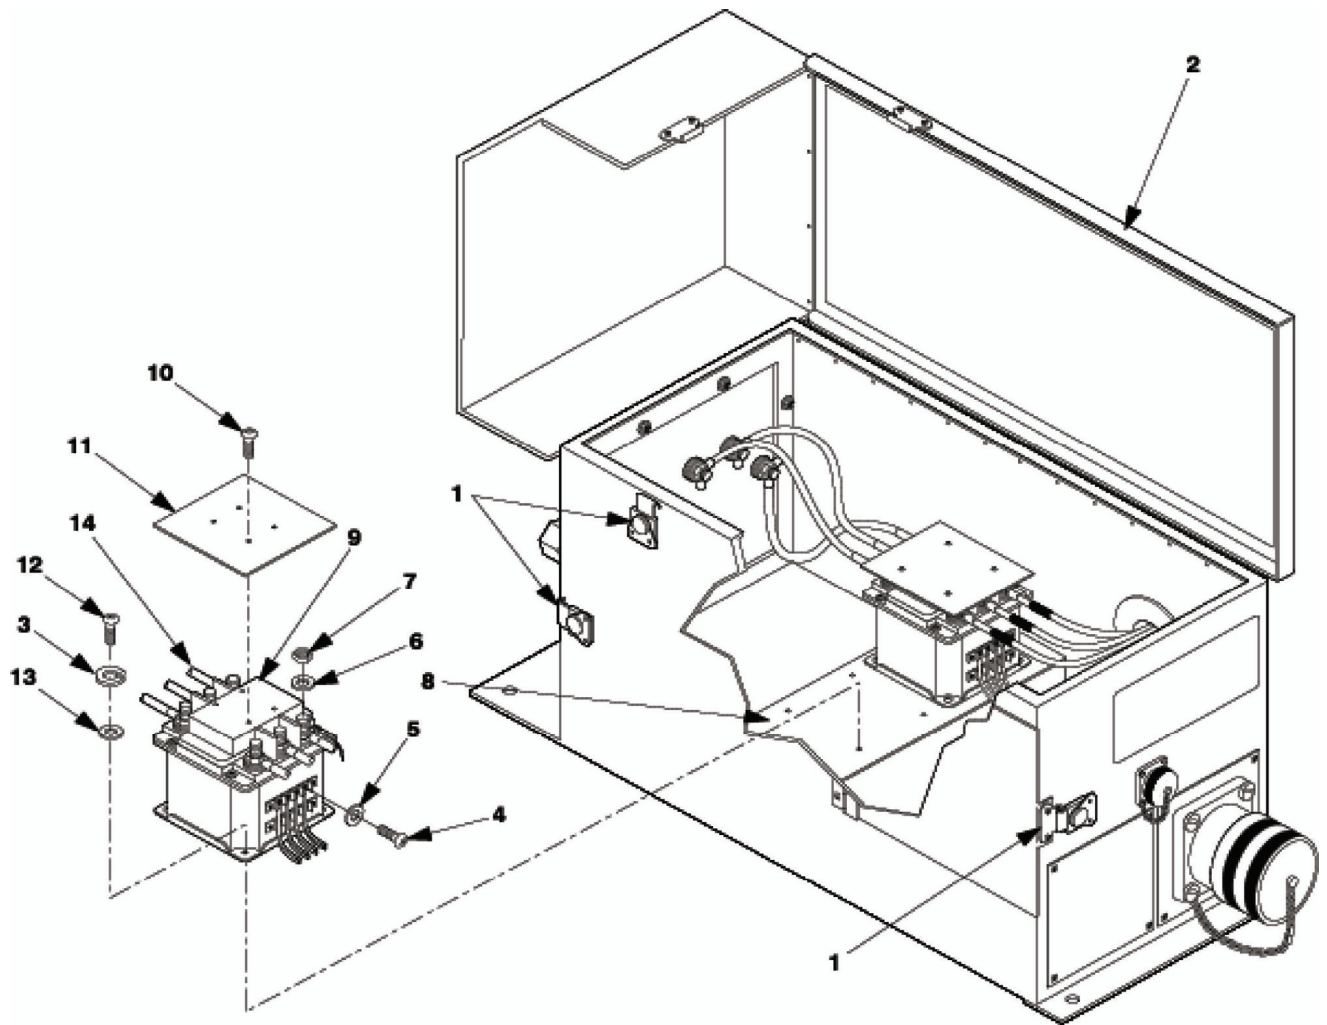

Figure 5-14.1. Contactor Maintenance (B&C Models).
1. Release clamping catches (1, figure 5-14.1) on switch box cover (2).
2. Lift switch box cover (2).
3. Remove screws (10) and terminal shield (11) from the contactor (9).
4. Remove nuts (7) and flat washers (6). Tag and remove six leads from contactor (9).
5. Remove terminal screws (4) and flat washers (5). Tag and remove wiring harnesses from contactor (9).
6. Remove screws (12), lock washers (3), flat washers (13), and contactor (9). Discard lock washers (3).